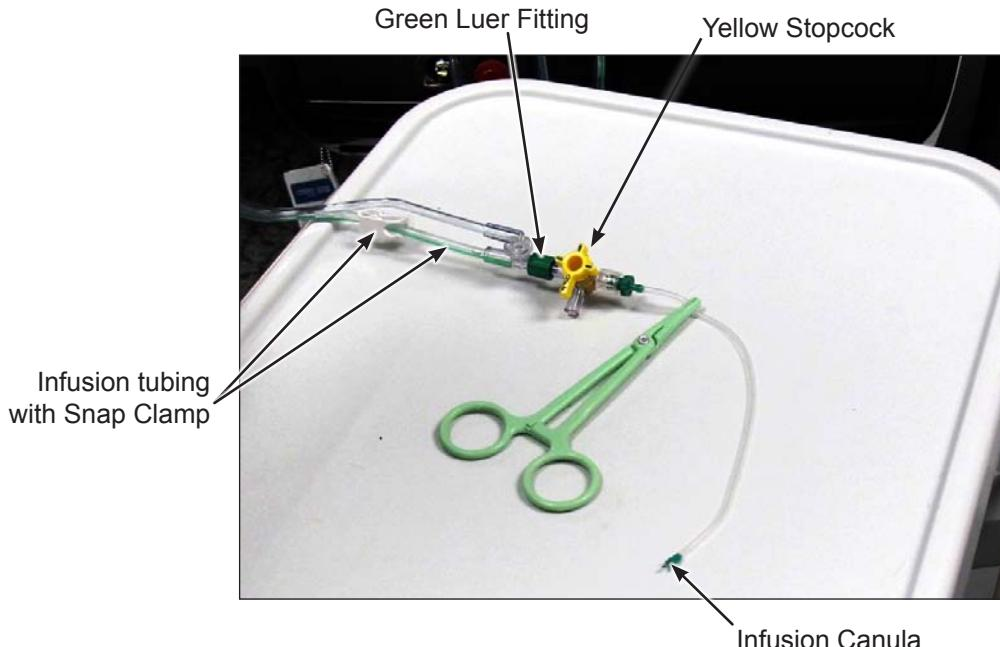

Figure 5-7 Clamped Infusion Canula Tubing (Stopcock optional)
- 2 Immediately clamp smaller infusion canula tubing with hemostats. (See Figure 5-7). Infusion pressure will be off when Setup Screen is displayed.